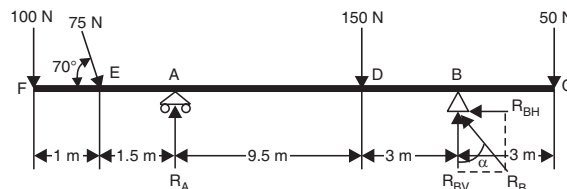

Fig. 3.52
**Example 3.21.** A simply supported overhanging beam 18 metres long carries a system of loads as shown in Fig. 3.52. Determine the reactions at the supports.
**Sol.** Refer to Fig. 3.52.